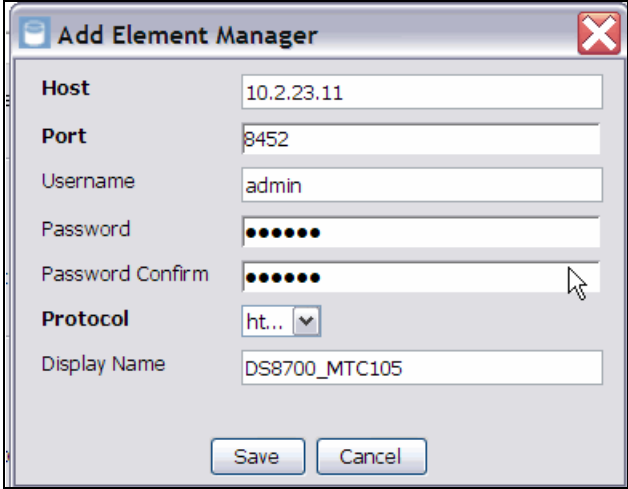

Figure 12-5 Configure a new DS8700 Element in the TPC Element Manager view
13. In the Add Element Manager window (Figure 12-5), you have to provide the following information: